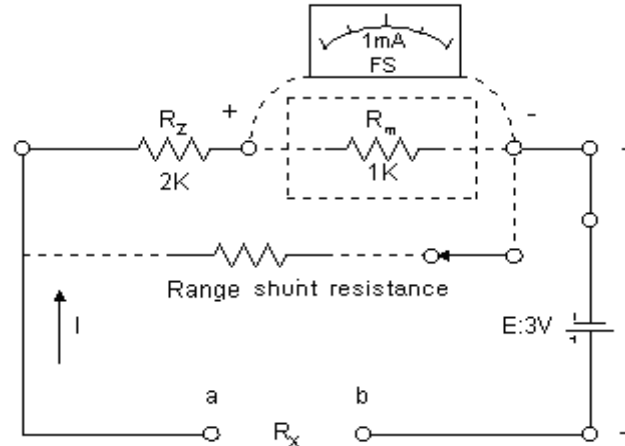

Figure 3-1 Circuit diagram of Ohm-meter
Ohm-Meter consists of Meter, Zero ohm multiplier, range shunt resistor and DC source(battery) as Figure 3-1 The sensitivity of Meter is generally $50\mu\text{A}\sim 1\text{mA}$ (FS) and its internal resistance is generally $100\Omega\sim 1\text{K}\Omega$. The most different thing from the general voltage meter and current meter lies in the fact while the status there is no current flow in the meter is 0 V or 0 A in the voltage meter and current meter, but the status there is some current flow is 0Ω in the ohm meter. Therefore, ohm meter is designed for resistance value to be set according to how much the degree meter cannot reach to FS by certain resistance measured. Another feature of ohm meter is the fact that ohm meter should have the DC power source making current flow from ohm meter to resistant material. So general portable ohm meter has its own battery. In the circuit of Figure 3-1, if you use 1mA FS of meter sensitivity and $1\text{K}\Omega$ of internal resistance and 3V of DC power resource, you must indicate the direction of meter as 1mA FS to make R_x terminal 0Ω (that is, connected a and b). So total resistance of the circuit would be as follows ;